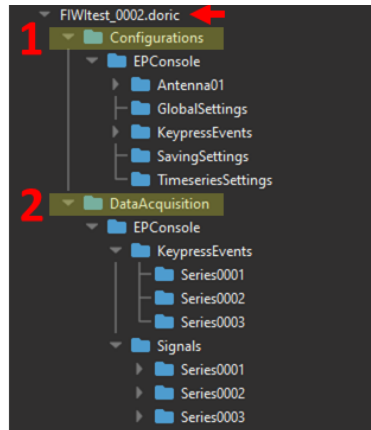

Figure 4.22: General Structure of a .doric file
The file structure begins with the data **File** itself, which is labeled as *FILENAME.doric* (Fig. 4.22, arrow), followed by two² branches (Fig. 4.22, 1-2):
1. The **Configurations** branch (Fig. 4.22, 1) contains all the recording parameters set during the recording, including *Saving, Global, Time series* and channel-specific folders (Section 4.4).
2. The **Data Acquisition** branch (Fig. 4.22, 2) contains and organizes the raw data (Section 4.5).